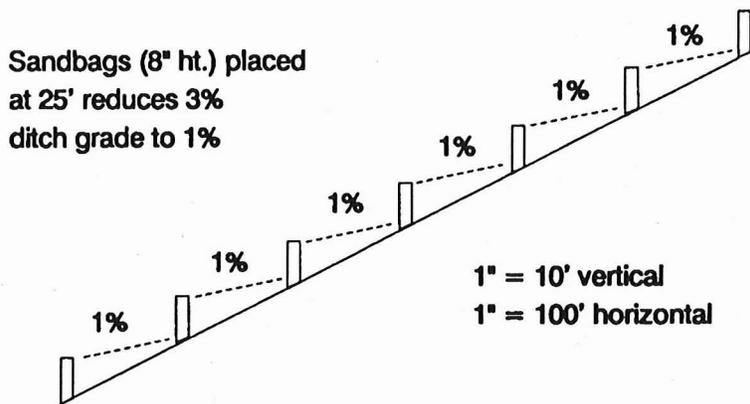

Figure 1 Roadway Ditch
(1) Erosion in roadway ditches is usually caused by steep grades which result in the high velocity of the flowing water. Figure 1 shows a typical 3% profile ditch. Individual 8-inch sacks of sand-cement can be placed at 25-foot intervals effectively reducing the grade to less than 1%, thus substantially reducing the erosion potential. Figure 2a illustrates the placement of a single sack across the ditch. In some cases it